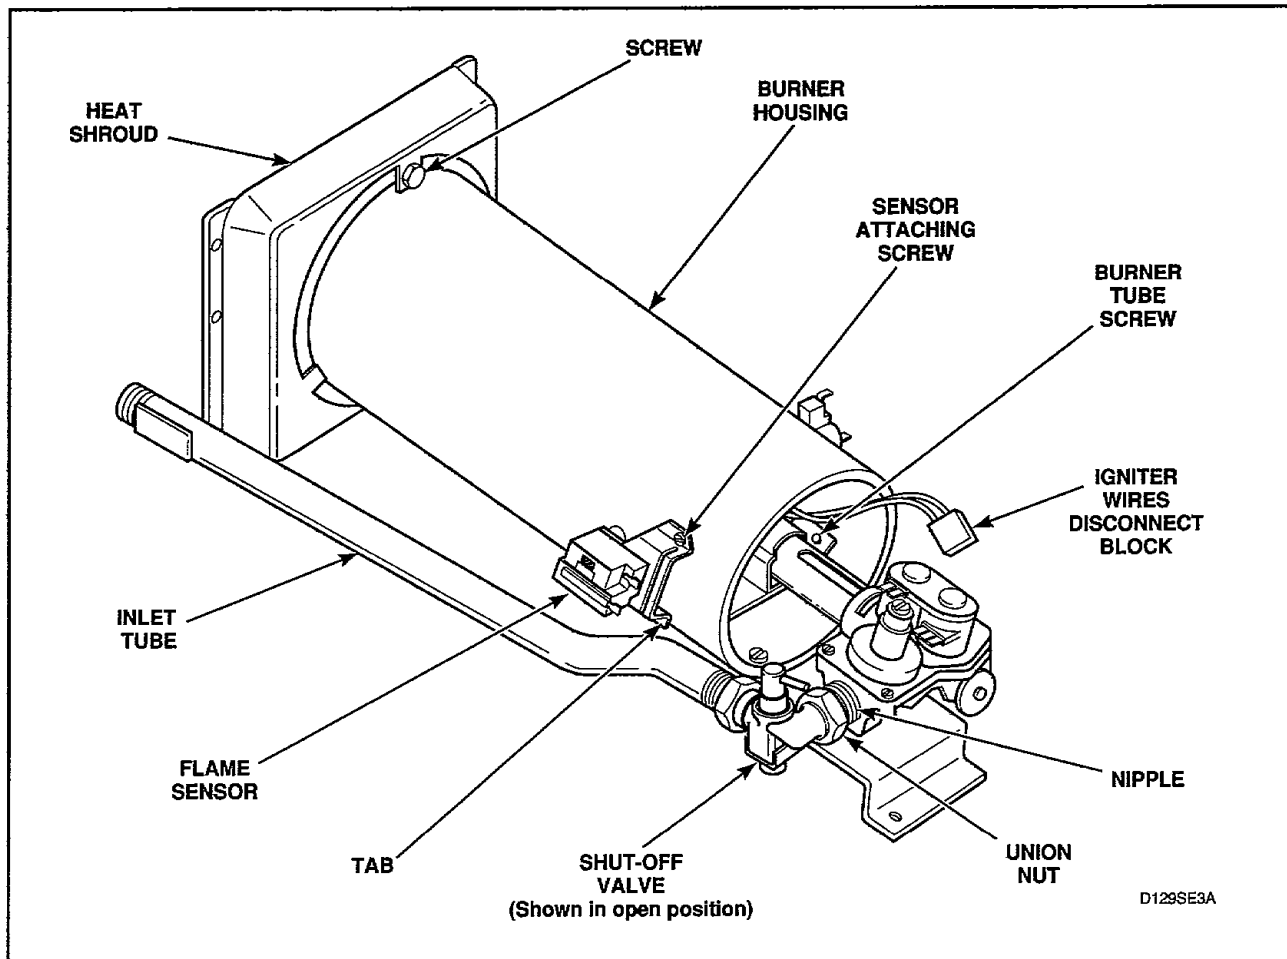

Figure 54
- Close gas shut-off valve, *Figure 54*.
- Remove wires from sensor terminals, *Figure 54*.